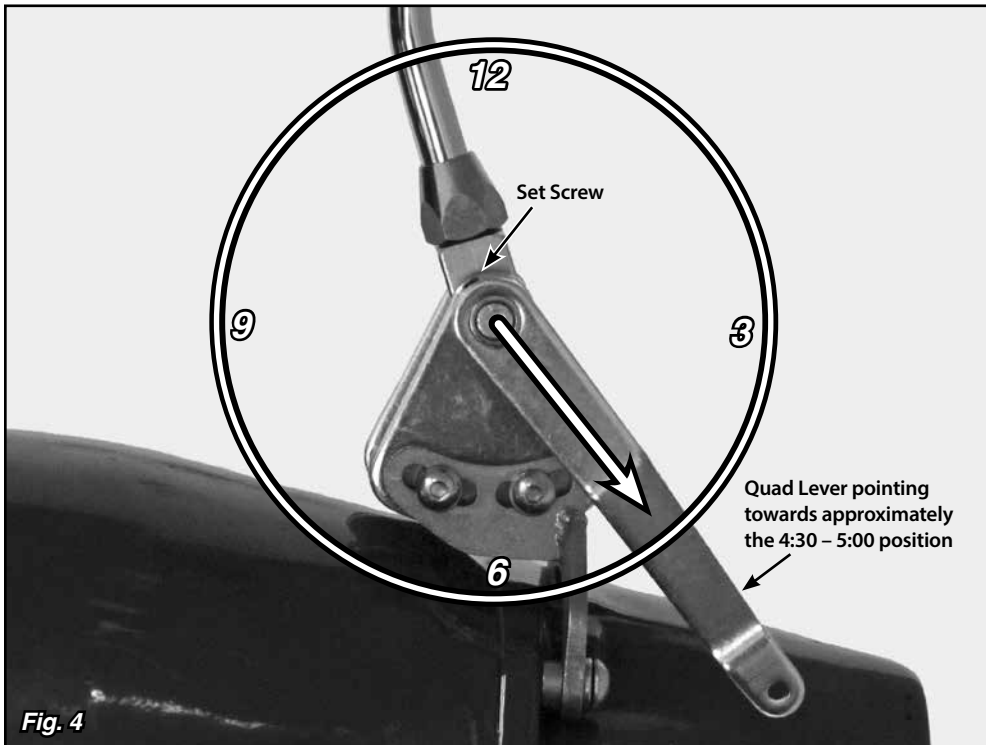

Fig. 4
Step 8: Put the shifter lever into the Park position and check the position of the quad lever. It will need to be pointing to about the 4:30 – 5:00 position. If it is not, loosen the set screw in the top of the quad lever with a 1/8" Allen wrench and slide the quad lever off of the shaft. Reposition it on the shaft at approximately the 4:30 – 5:00 position, and retighten the set screw. **Fig. 4**